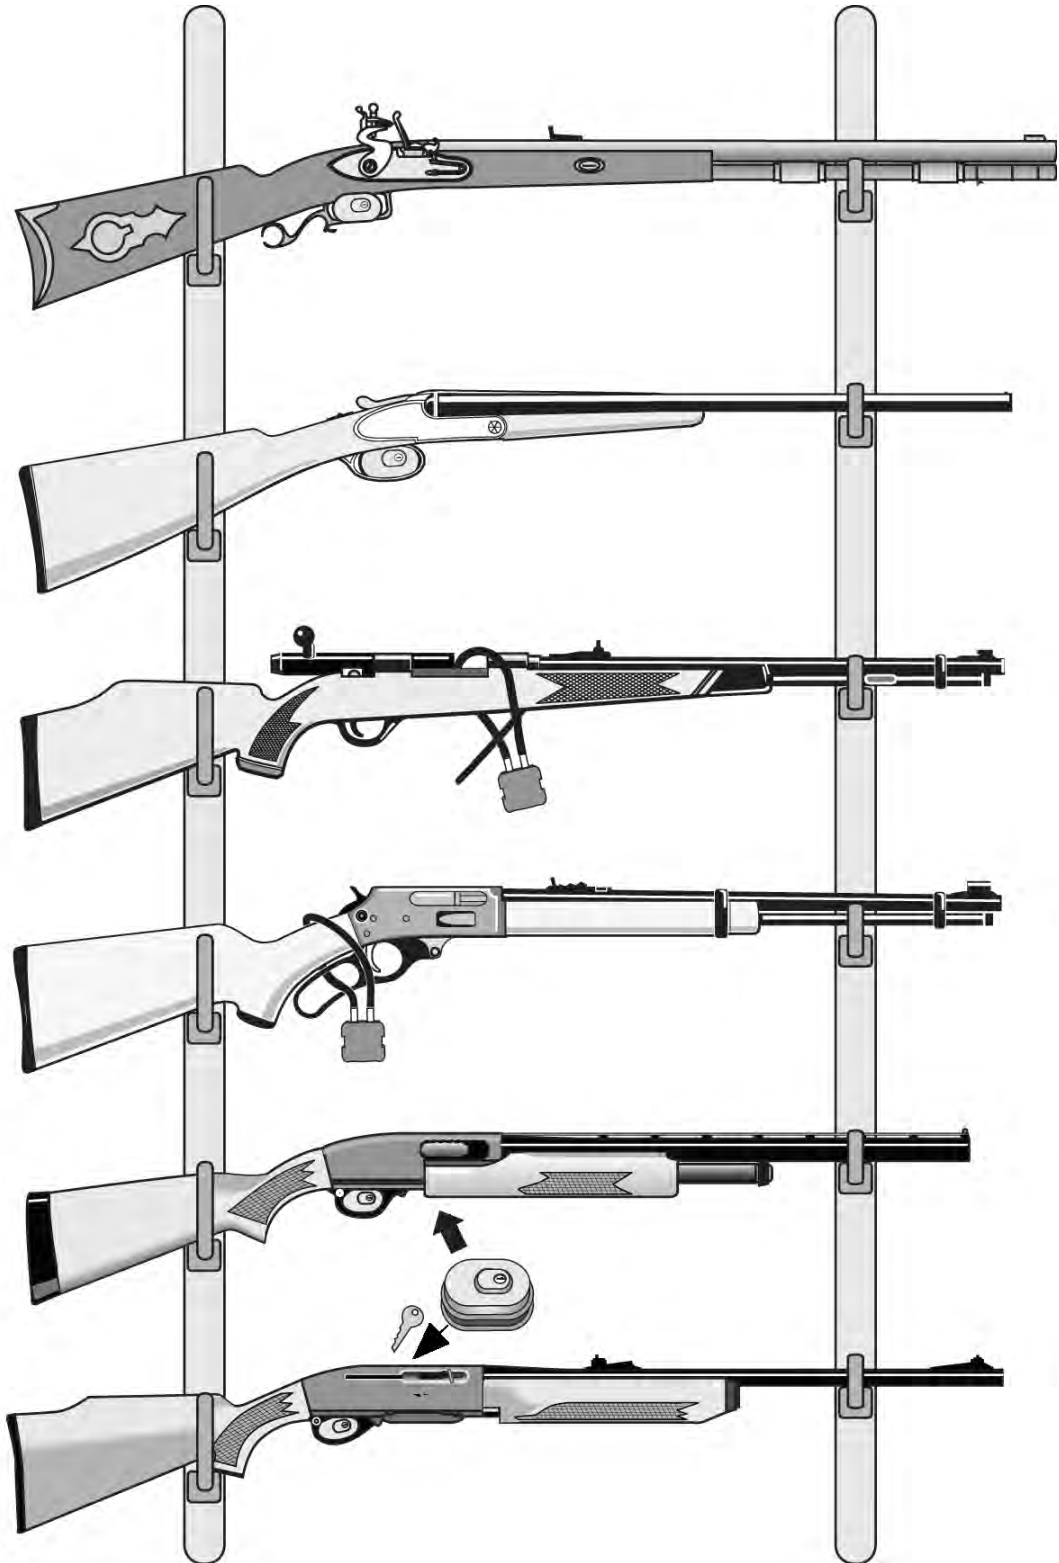

Figure 84. Display
2. It is not displayed with and not within easy access to ammunition that can be discharged from it (Figure 84).